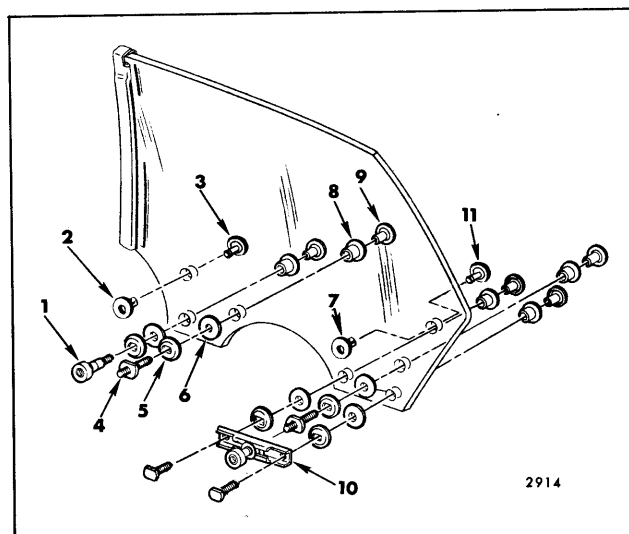

Fig. 6-91—Rear Door Window Assembly - "A-39" Styles
Figure 6-91 is an exploded view of the window assembly and identifies the various components and their assembly sequence.
2. Fore-and-aft adjustment of the window assembly is controlled by the position of the front guide. The upper attaching locations in the front guide upper support ("11", Fig. 6-81) are slotted to permit fore-and-aft adjustment of the guide. Because of the free floating roller in the window rear sash channel cam (Fig. 6-91) the rear guide does not have to be adjusted during fore-or-aft window alignment.